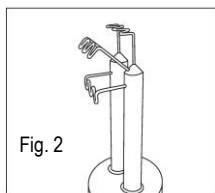

Fig. 2
Insert stake into Electrodes (5) as shown in Figure 2. Three positions are available to insert stakes at different angles.